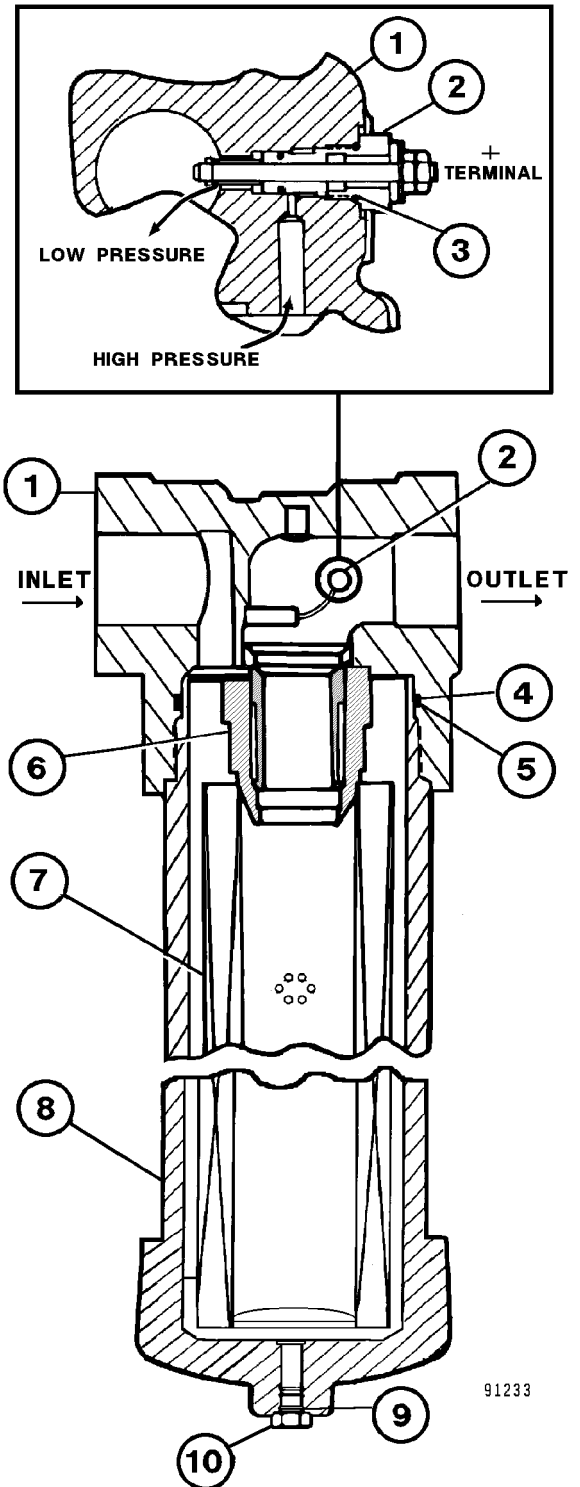

FIGURE 40-4. STEERING CIRCUIT FILTER
2. Remove plug (10, Figure 40-4) and drain oil from the housing into a suitable container.
NOTE: The indicator switch (2, Figure 40-4) is preset to actuate at 241 kPa (35 psid) and is not repairable or adjustable. If the indicator switch is inoperative, replace the complete switch. Attempting to adjust the switch is not recommended.